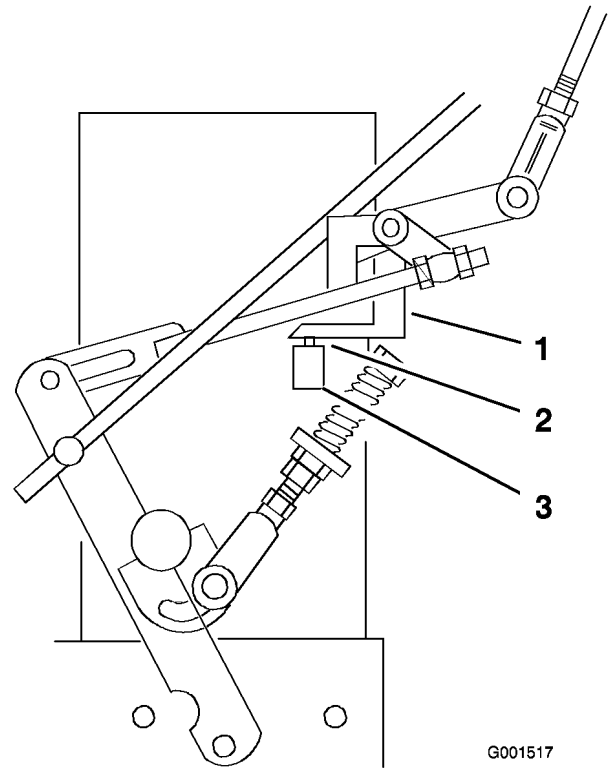

Figure 34
- Check to make sure the safety switch is depressed and there is a 5/16 inch (8 mm) space between the actuating tab and the switch. (Figure 34).
- If needed, adjust switch location to create the 5/16 inch (8 mm) space (Figure 34).